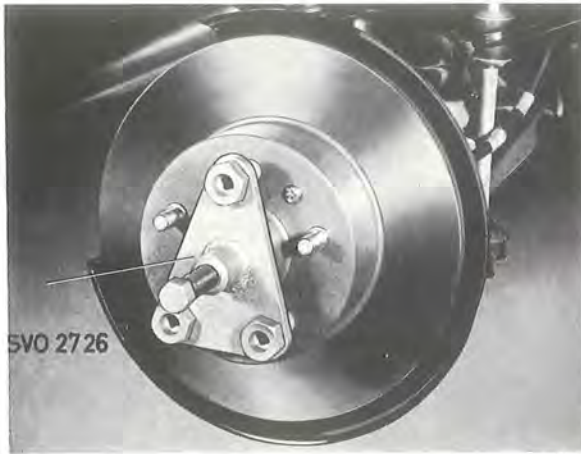

Fig. 6-17. Removing the front wheel hub
2. Remove the grease cap with tool SVO 2715, see Fig. 6-16. Remove the split pin and castle nut. Pull off the hub with puller SVO 2726, see Fig. 6-17. If necessary pull off the inner bearing from the stub axle with tool SVO 2722, see Fig. 6-18.